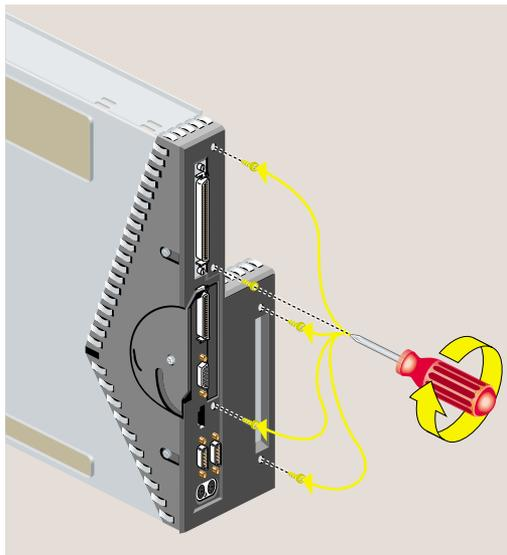

Figure 5-19 Replacing Five Screws on the Face Plate
15. Use a Phillips screwdriver to insert and tighten five screws in the locations shown (Figure 5-19).